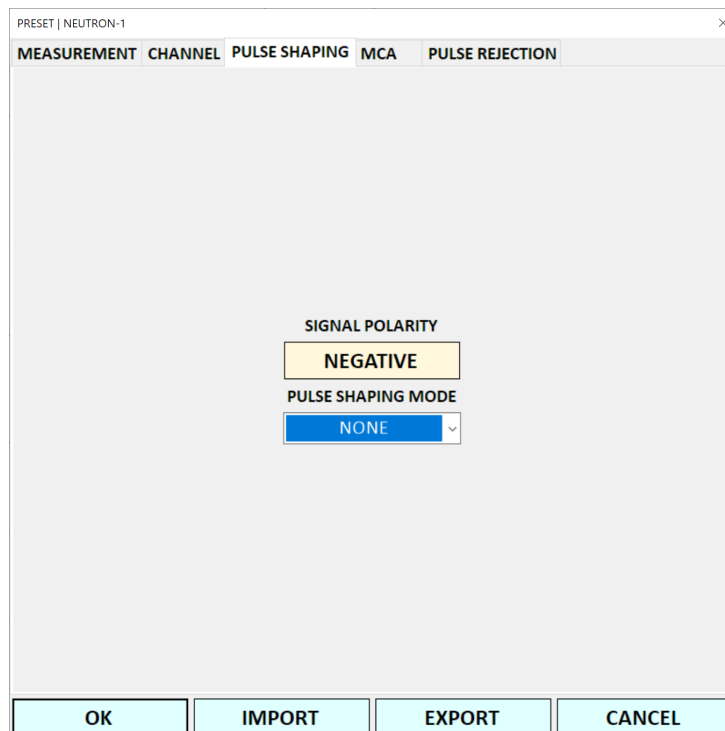
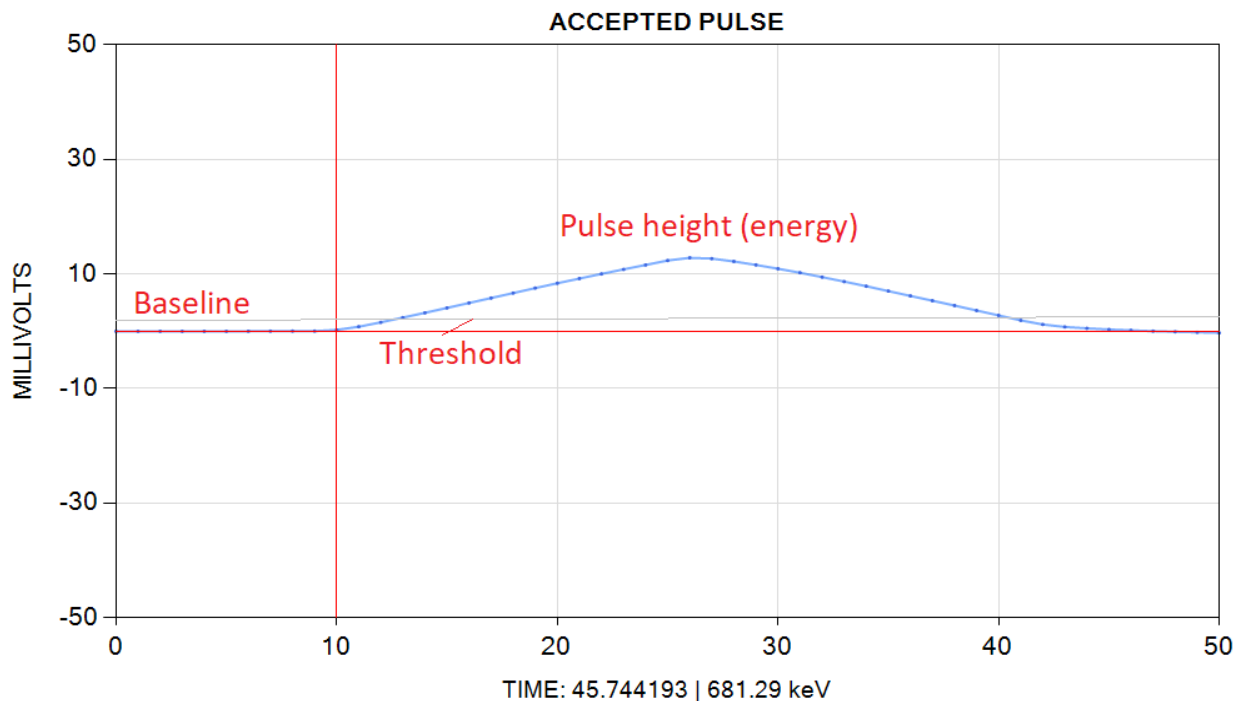

Fig. 30. The **PULSE SHAPING** page of the **PRESET** dialog.
Fig. 31. A triangular shaped pulse.
- **PULSE SHAPING** - allows specifying the detector **SIGNAL POLARITY** (positive or negative) and the **PULSE SHAPING MODE**, Fig. 30;
When you select the 'NONE' option from the **PULSE SHAPING MODE** list on the **PULSE SHAPING** page of the **PRESET** dialog (Fig. 30) it means that the signal that you acquire on this channel has already been shaped and the height of the pulse corresponds to energy. Fig. 31 shows an example of a triangular shaped pulse.
The **DISPLAY WINDOW** allows specifying the duration of the detector pulse displayed by PulseCounter during measurement acquisition. Then **THRESHOLD** (horizontal gray line on Fig. 31) defines the minimum level below which the pulses are considered noise and therefore not counted. The **BASELINE** allows specifying how many baseline samples should be averaged with the resulting DC offset subtracted from the measured pulse height. This option is useful when there is a baseline drift due to low frequency noise or signal processing artifacts resulting from the uncompensated exponential decay. In most cases the value of the **BASELINE** should be set zero (no baseline averaging).